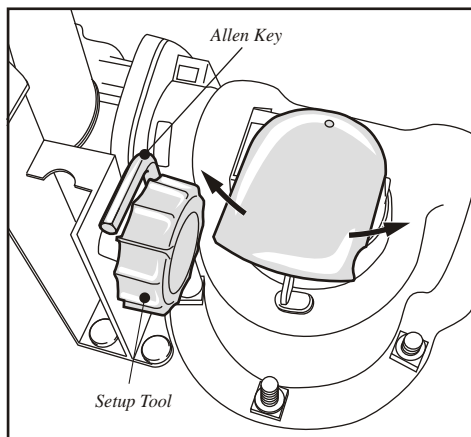

Figure 31 Manual Release Mechanism
1. Flip over the controller enclosure. Open the override dust cover as shown in Fig. 31.